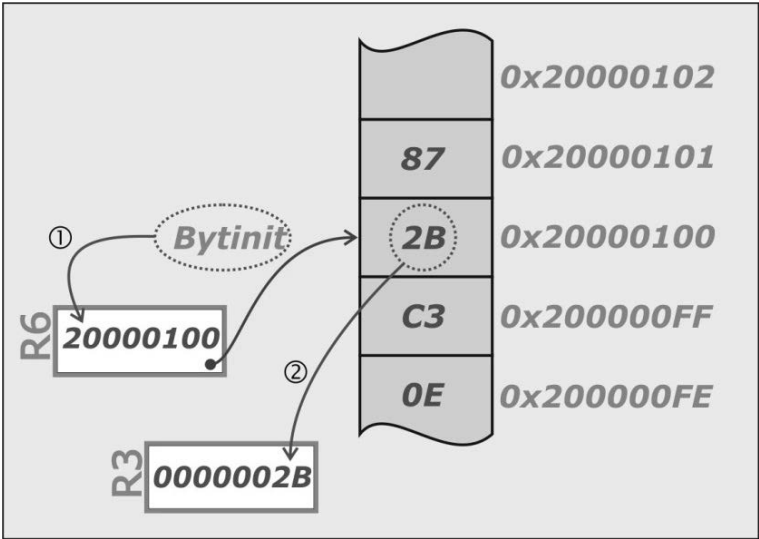

Figure 3.2. Use of a register as a pointer
In this example (see also Figure 3.2), we can see that in order to modify *R3* with the stored value of the memory block named *Bytinit*, it is necessary to pass through an additional register (*R6*). This code recovers, in a first step (①), the address of the variable (*LDR R6, =Bytinit*). Then in a second step (②) with “indirect addressing”, it loads *R3* with the stored value (*LDRB R3, [R6]*). Register *R6*, once initialized, acts like a pointer to the memory zone to be read. We can also note in passing that only the least significant byte is copied, as the *LRDB* instruction carries out the transfer of one byte. On the other hand, the instruction concerns the whole of the *R3* register, so the 24 most significant bits of this register are set to zero during the transfer. The final content of the 32-bit *R3* register is effectively equivalent to the unsigned numbers stored on a byte in *Bytinit*.